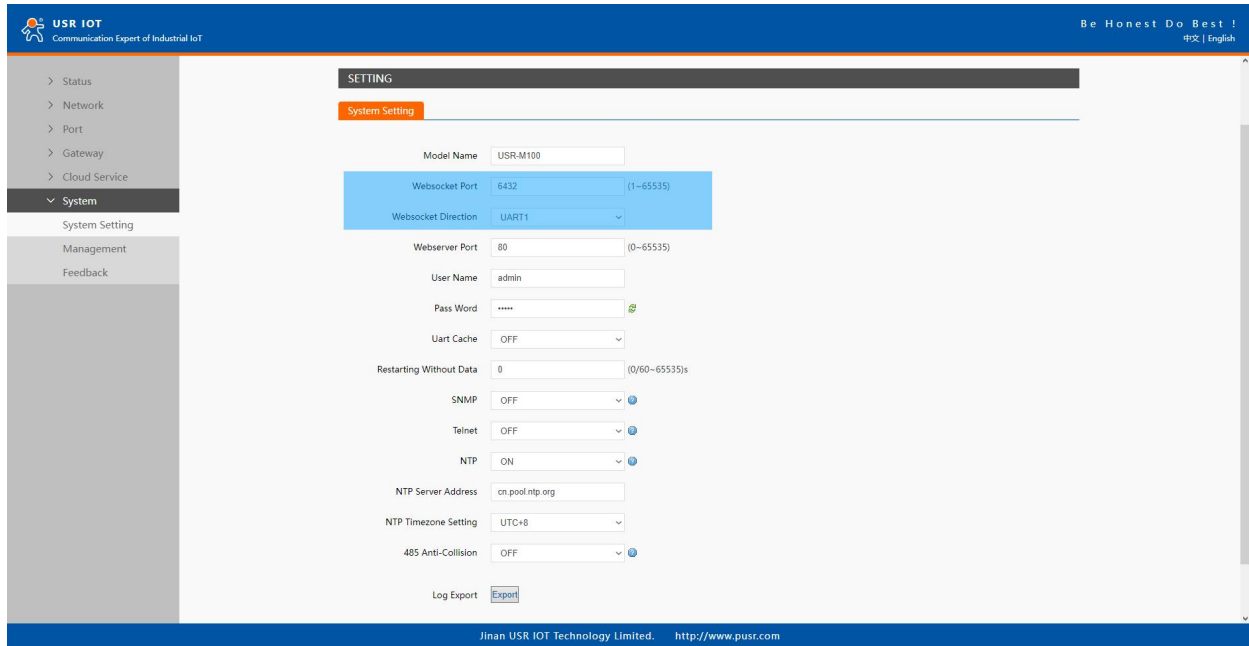

Fig. 51 Websocket server setting
1. Click on the "system setting" tab on the menu frame on the left side of Web UI to go to system setting page as shown in Fig.51.